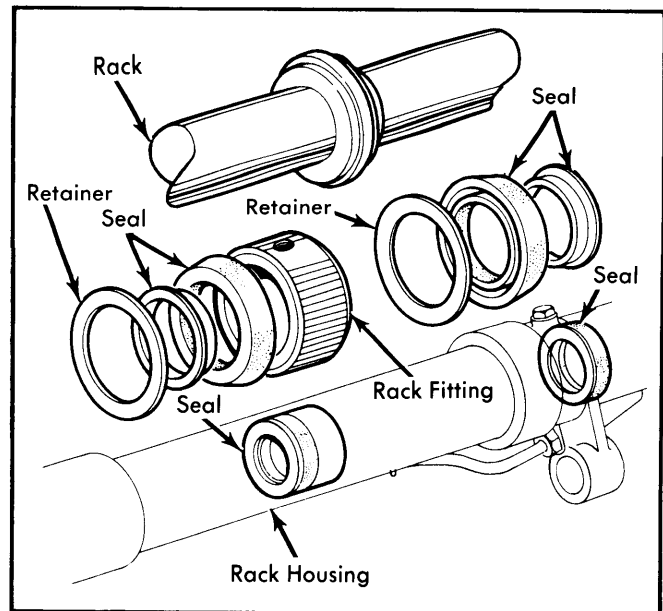

Fig. 6 Rack Seal Installation
3) Reverse disassembly procedures for the remainder of components, noting the following: Tighten lock nuts fully. Adjust threaded plug (Fig. 6) to give minimum of .010" (.254 mm) end play.